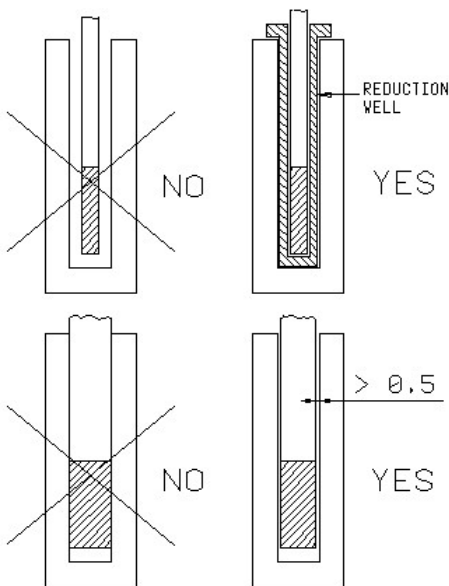

Fig.1
- Use the reduction insert; check that the diameter of the hole is at least 0.5mm bigger than the diameter of the probe (fig.1).